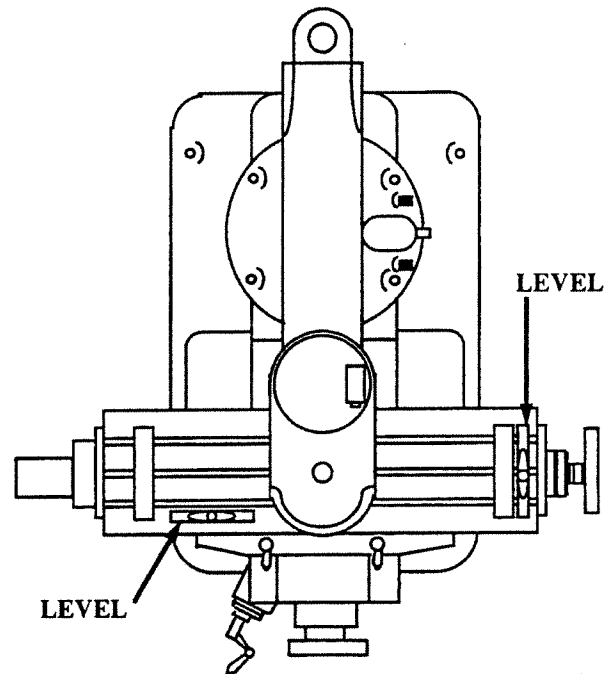

Figure 3-7 Leveling Machine
3.7 LEVELING MACHINE (Figure 3-7)